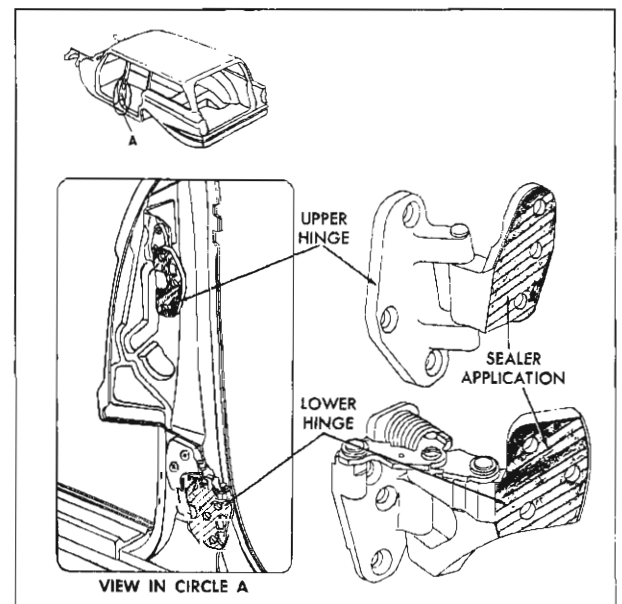

Fig. 12-30 Rear Door Hinge Assemblies
2. With door properly supported, remove upper and lower hinge attaching screws at door hinge pillar or screws and bolts at center pillar, depending on method of removal being used (Fig. 12-30).
2. Apply a coat of heavy-bodied sealer to attaching surfaces of hinge straps or corresponding surfaces of door or body. Figure 12-30 shows location of rear door hinges and necessary sealer application.